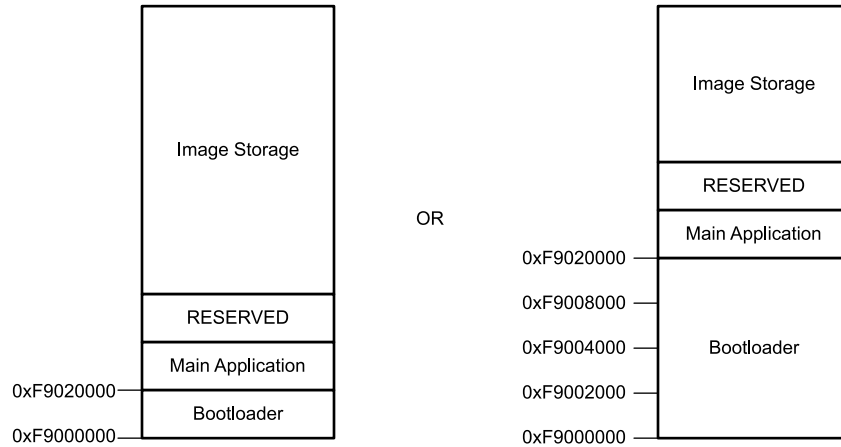

图 7-2. Boot Flash Memory Layout
All applications require both the controller and DMD components for reliable operation. The system uses an external parallel flash memory device loaded with the DLPC900 configuration and support firmware. The external boot flash must contain a minimum of two sectors, where the first sector starts at address 0xF9000000 which is the power-up reset start address. The first 128 kilobytes is reserved for the bootloader image and must be in its own sector and can be made up of several smaller contiguous sectors that add up to 128 kilobytes as shown in 图 7-2. The remaining sectors contains the rest of the firmware. The default wait-states is set for a flash device of 120ns access time. For a faster flash access time, refer to the 节 7.2.1.2.1.4.2 on how to program new wait-state values.
- PM\_CSZ\_1 - dedicated CS for boot flash device ( $\leq 16$  megabytes). Refer to the 图 7-2 for the memory layout of the boot flash.